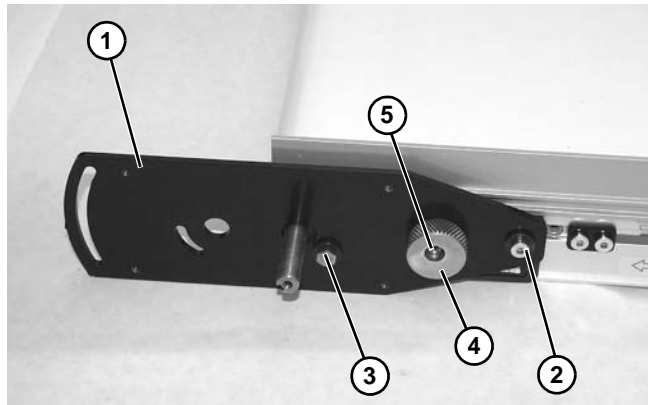

Figure 17
1. Install slave drive plate (Figure 17, item 1) onto drive end of driven conveyor.
2. Install washer and screw (Figure 17, item 2). Do not tighten.
3. Install washer and screw (Figure 17, item 3). Do not tighten.
4. Install cam knob (Figure 17, item 4) with screw (Figure 17, item 5). Do not tighten.